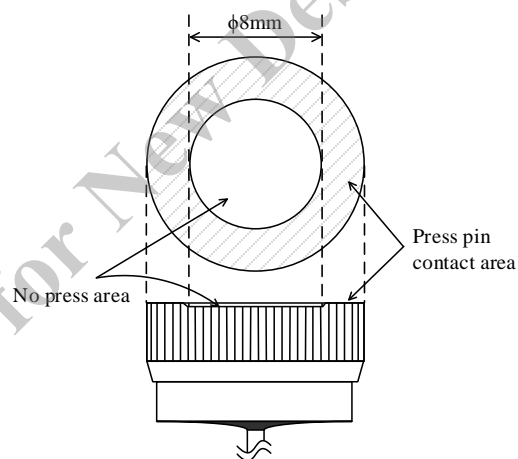

Figure 9 Press Pin Contact Area
- Press pin contact area: See Figure 9 (The press pin must not be pressed to “No press area”)